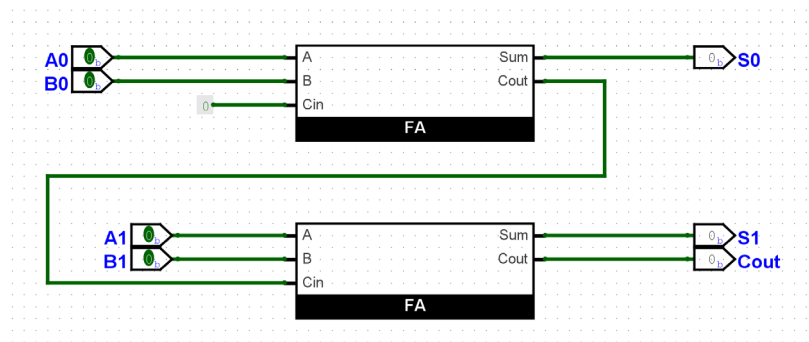

Fig 3.5 Two-bit adder.
6. Use Logisim to simulate two-bit adder. First, draw the circuit by using FA subcircuits from **Experiment 4** as shown in Fig 3.5 and then use the test vector as shown in Fig 3.6 to test the circuit.